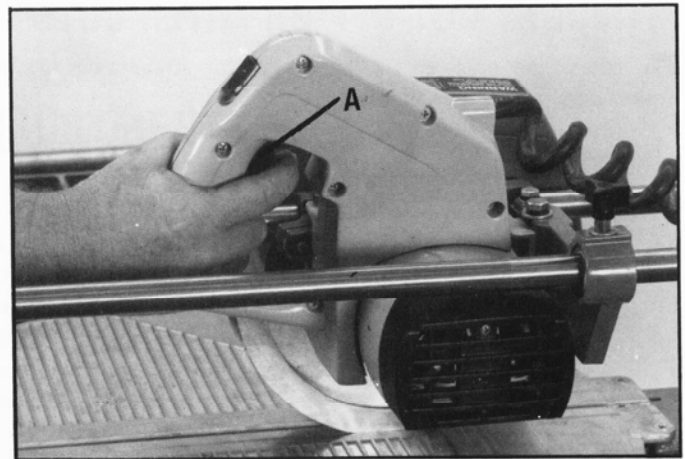
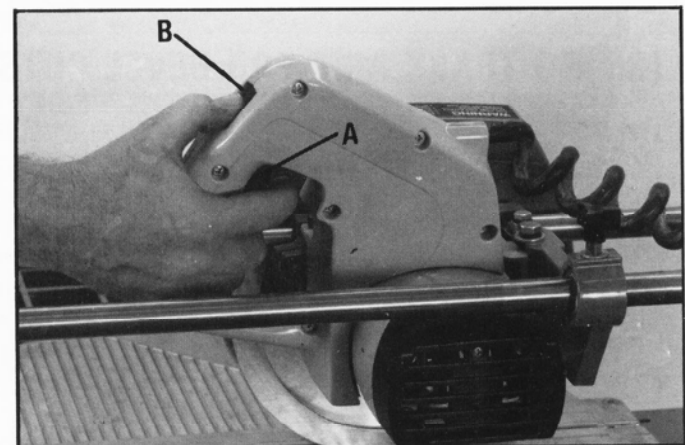

Fig. 17
Fig. 18
To start the saw, depress switch trigger (A) Fig. 17. To stop the saw, release the switch trigger. Your saw is equipped with a blade brake. As soon as the cut is completed, release the switch trigger (A) and press down on the brake button (B), as shown in Fig. 18. The brake button is conveniently located on the top of the handle for easy thumb operation.